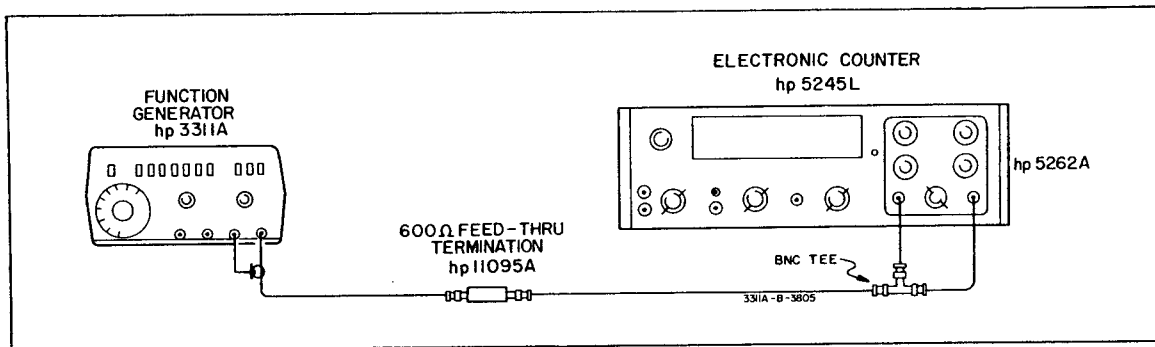

Figure 5-8. Symmetry Adjustment.
- Connect an electronic counter to the terminated output of the Model 3311A as shown in Figure 5-8. Alternately measure the periods of the positive and negative portions of the waveform and adjust A1R23 until these periods are equal.